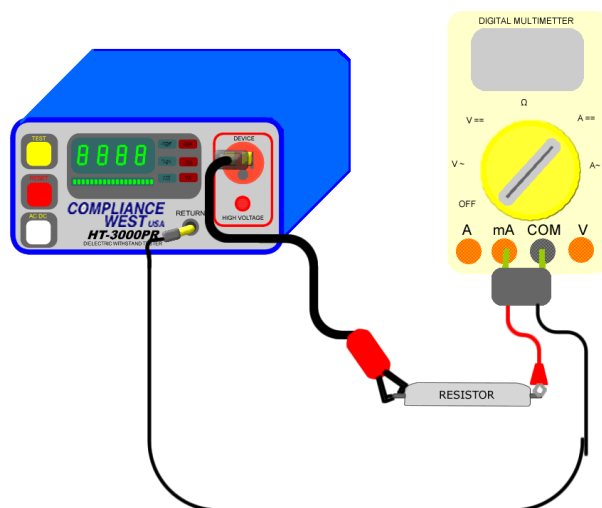

Figure 8. Current Measurement with 100 W High Voltage Resistor.
2. Connect the output of the HT-PR through a 100 watt high voltage load resistor (60k Ω for AC or 240k Ω DC) in series with an external current meter returning to the Return jack on the front panel of the HT-PR as is shown on figure 8.